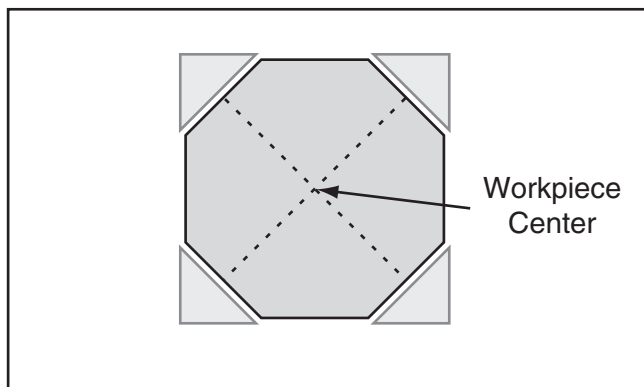

Figure 37. Corners of workpiece removed.
5. If your workpiece is over 2" x 2", cut the corners off the workpiece lengthwise to make turning safer and easier (see **Figure 37**).